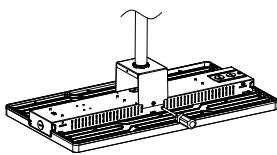

Figure 3
- Step2. Lock fixture on the bracket; (Figure 3)